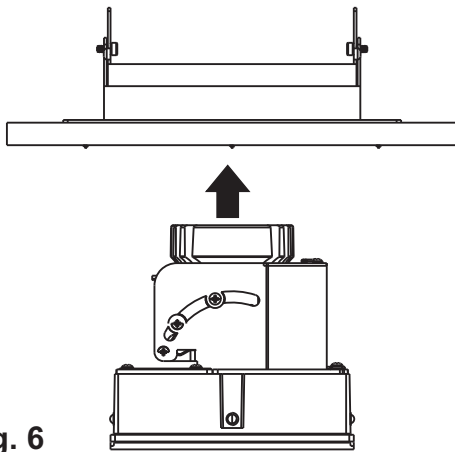

Fig. 6
Step 7: Install your ELIUM™ trim **Fig. 6 and 7.**